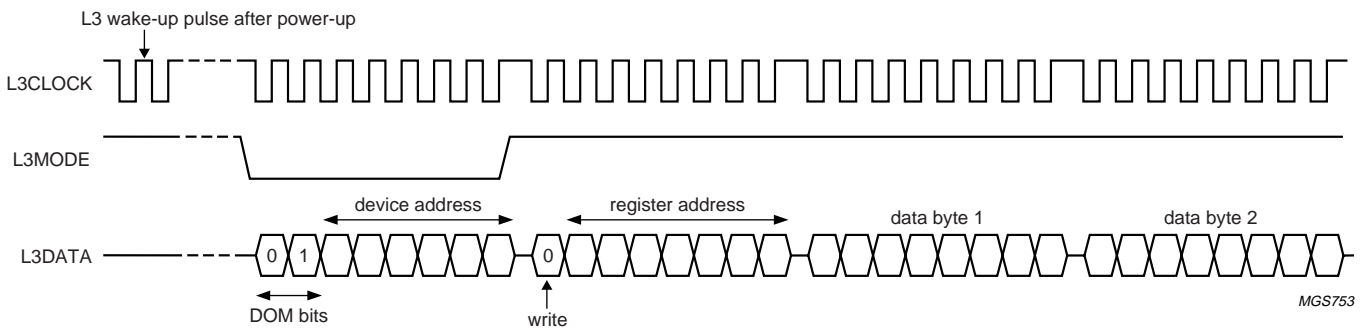

Fig.6 Data write mode (for L3 version 2).
The address mode is used to select a device for a subsequent data transfer. The address mode is characterized by L3MODE being LOW and a burst of 8 pulses on L3CLOCK, accompanied by eight bits (see Fig.6). The data transfer mode is characterized by L3MODE being HIGH and is used to transfer one or more bytes representing a register address, instruction or data.
**Remark:** when the device is powered up, at least one L3CLOCK pulse must be given to the L3 interface to wake up the interface before starting sending to the device, see Fig.6. This is only needed once after the device is powered up.
1. Addressing for write data: bit 0 is logic 0 indicating a write action to the destination register, followed by bits 1 to 7 indicating the register address (see Fig.6)
The data write mode is explained in the signal diagram of Fig.6. For writing data to a device, four bytes must be sent (see Table 6):